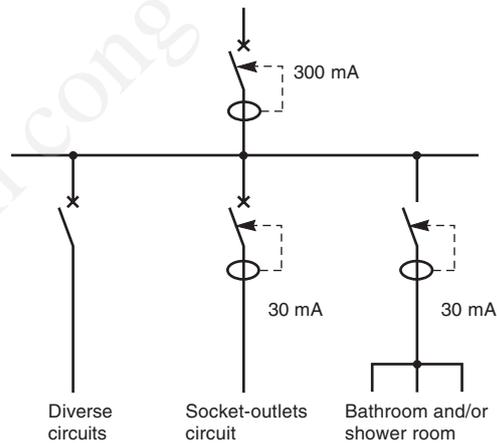

Fig. P5 : Installation with incoming-supply circuit-breaker having instantaneous differential protection
- Protection against indirect contact hazards by RCDs (see Fig. P5) of medium sensitivity (300 mA) at the origin of the installation (incorporated in the incoming supply circuit-breaker or, on the incoming feed to the distribution board). This measure is associated with a consumer installed earth electrode to which must be connected the protective earth conductor (PE) from the exposed conductive parts of all class I insulated appliances and equipment, as well as those from the earthing pins of all socket outlets